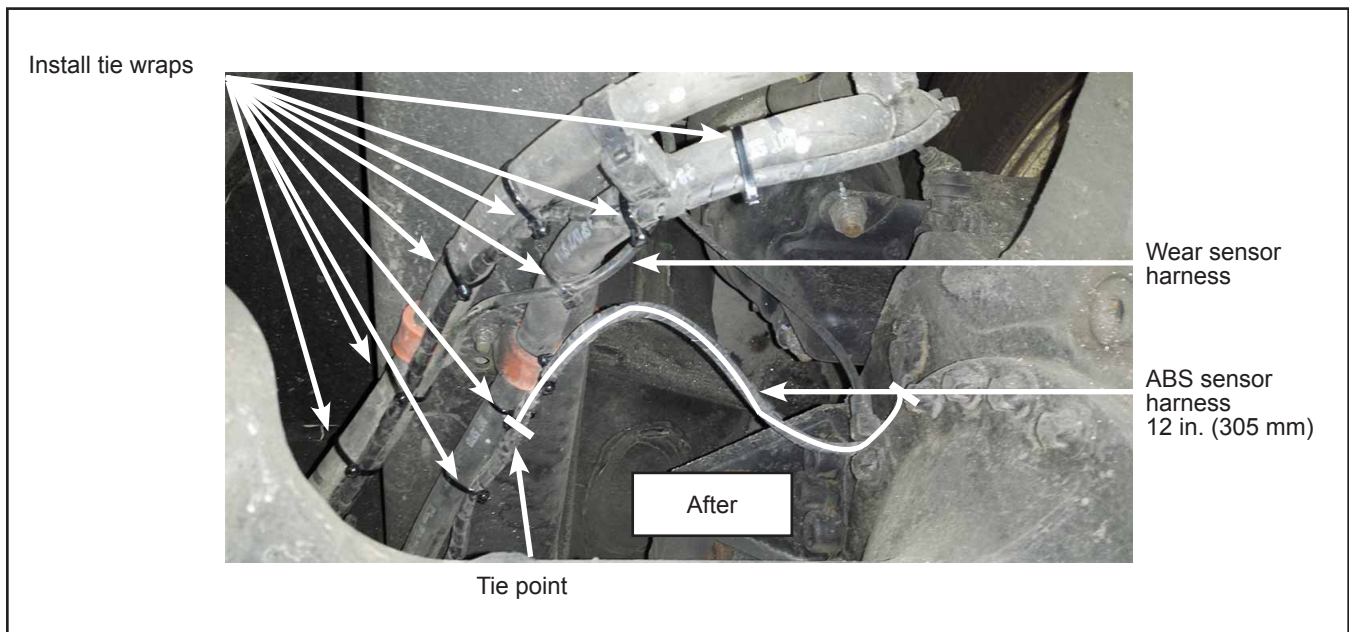

Figure 26 - Curb Side Electrical Harness Routing
- 2.48. Affix the ABS electrical harness to the brake hose with tie wrap at the tie point. See Figure 26 Place tie wraps every four inches.
- 2.49. Affix the wear sensor electrical harness to the brake hose with tie wraps. See Figure 26. Place tie wraps every four inches.